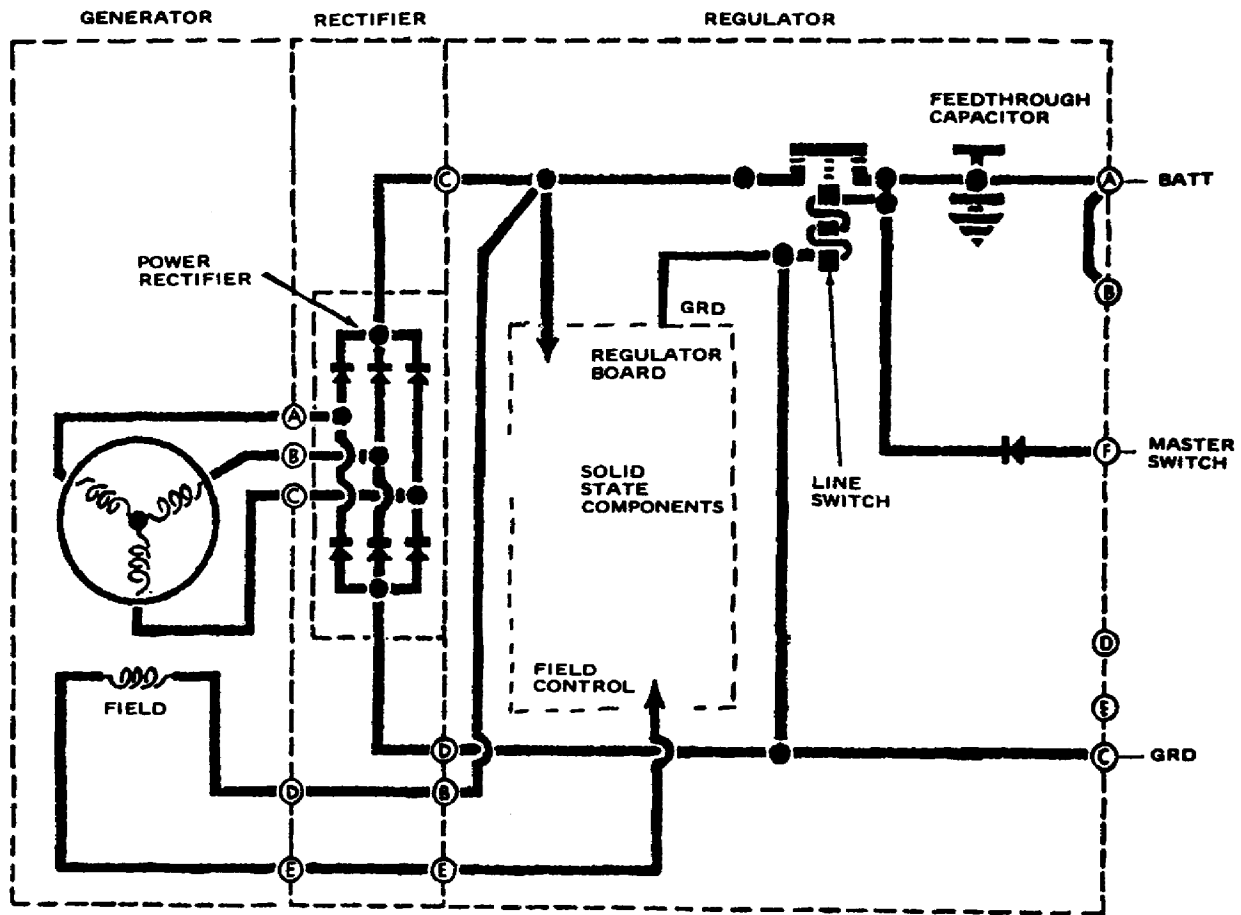

Figure 9. Simplified diagram.
5. TEST AND ADJUSTMENT OF THE 100-AMPERE REGULATOR. Bench testing of the regulator requires a multimeter, such as the TS-352, and a 24-volt source, such as a battery. The test stand could be used by connecting to J1 and J2 (fig 9).